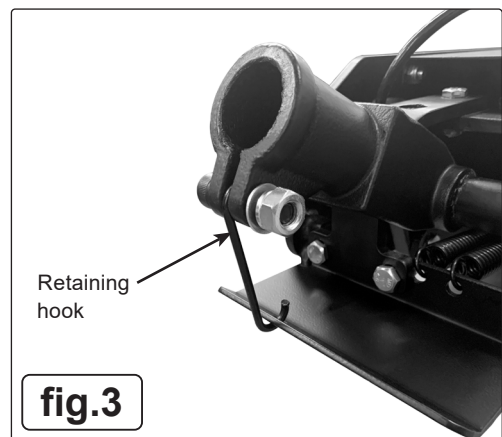

fig.3
3. Seek assistance from a second person if necessary. Insert the handle into the handle socket to help relieve pressure in the socket. While pressing down on the handle fork, remove the retaining hook. (See Fig. 3).